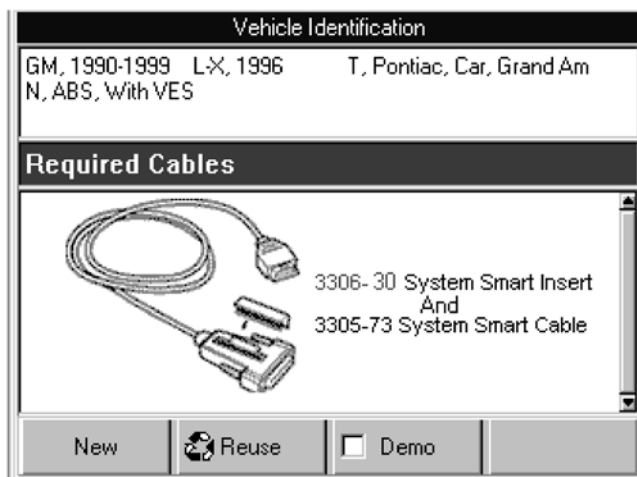

Figure 2.7: Vehicle Information - Required Cables Screen
- b** Select the vehicle description to use and press the **ENTER** key. This displays the illustration of the required cables, as shown in figure 2.7.